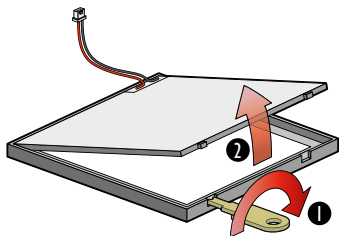

fig. 2
- ▶ **4.** You can fill out the provided blank namecard and add it to the nameplate. Carefully open the nameplate with a small screwdriver or with the key provided (fig. 2).